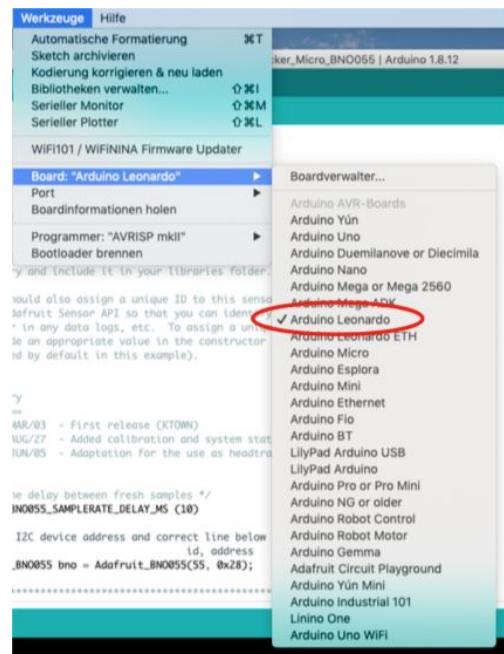

Figure 6: Port “(Arduino Leonardo)”
**Step 9.3:** To program the Arduino Pro Micro, choose the Board “Arduino Leonardo” in the tools section (*Figure 6*).